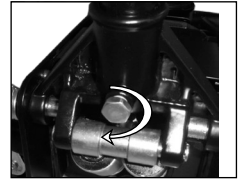

fig 4.
4. Fasten the locking screw in the handle base [4] to ensure the handle assembly is safely secured [fig.4].